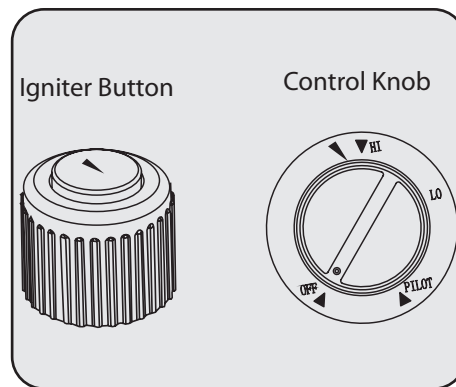

Figure 15
3. Push in gas control knob and slightly turn clockwise ↻ to the OFF position See Figure 15.